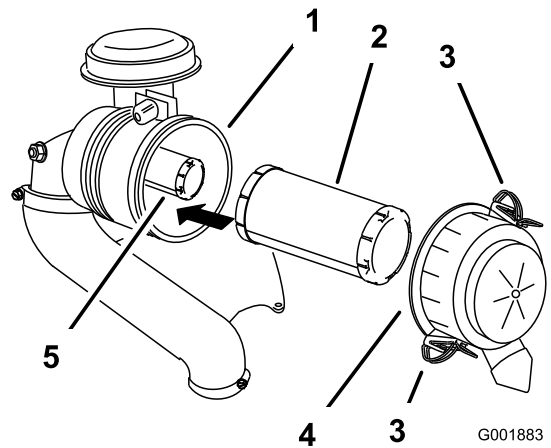

Figure 47
5. Gently slide the primary filter out of the air-cleaner body (Figure 47).
3. Release the latches on the air cleaner and pull the air-cleaner cover off the air-cleaner body (Figure 47).
2. If you are replacing the inner filter, carefully slide it into the filter body (Figure 47).
- Carefully slide the primary filter over the safety filter (Figure 47).
- Install the air-cleaner cover and secure the latches (Figure 47).